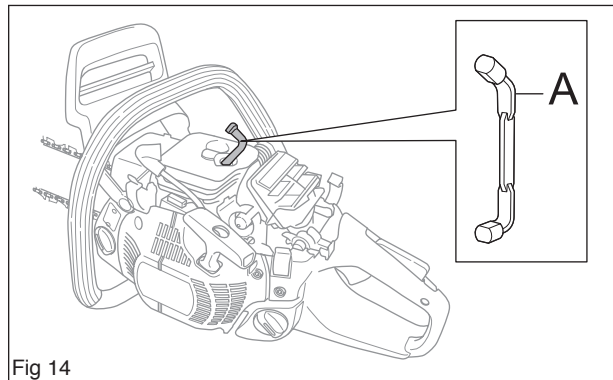

Fig 14
Disconnect the HT lead. Remove the spark plug and fit piston stop 502 54 15-01 (A) in its place. (see figure 14)